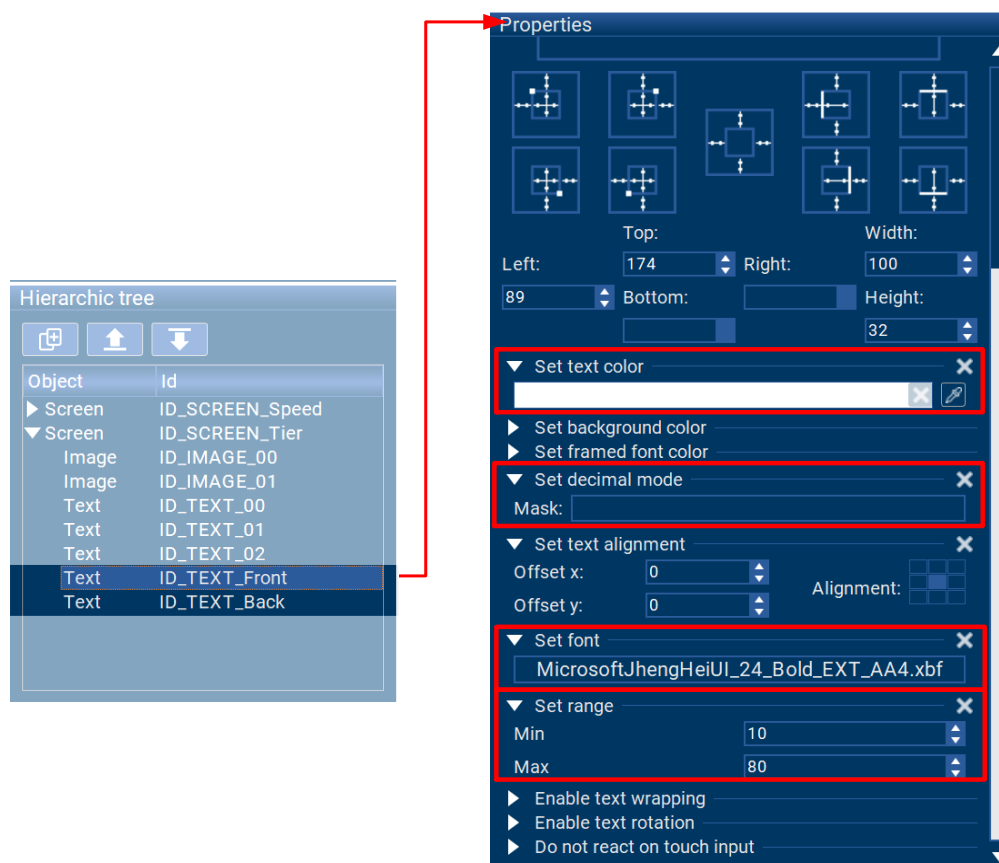
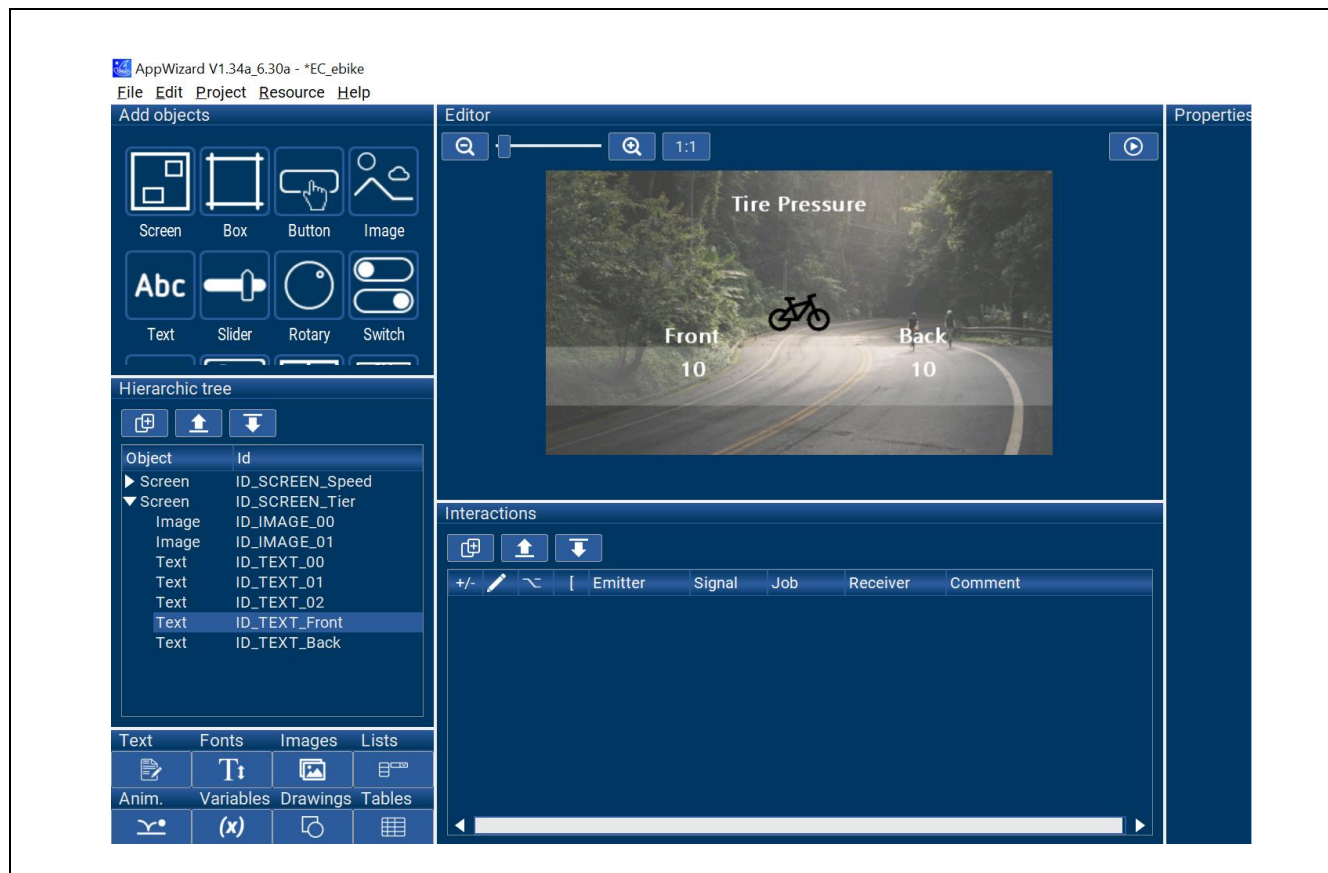

Figure 1-48 Text Object - Properties
Figure 1-49 Using Text Object to Display Tire Number
27. Use Text object to add tire pressure value display. Follow the step 9 to 10 to complete this task. The settings for this example can be referenced in Figure 1-48. After completion, the result should be shown as Figure 1-49.